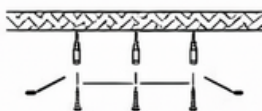

Figure 9
2. Insert the supplied rubbers into the alignment holes, then fix the mounting plate on the ceiling by supplied screws (Figure 9)